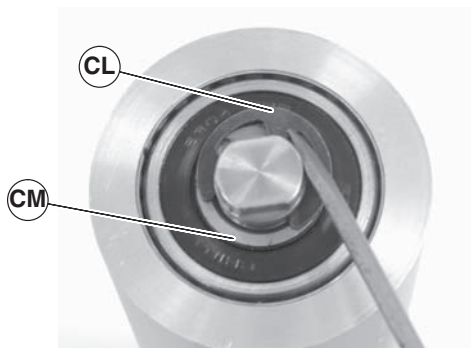

Figure 76
- Remove the pulley shaft assembly: remove the clip ring (Figure 76, item CL) and washer (CM) from one side of the pulley assembly.